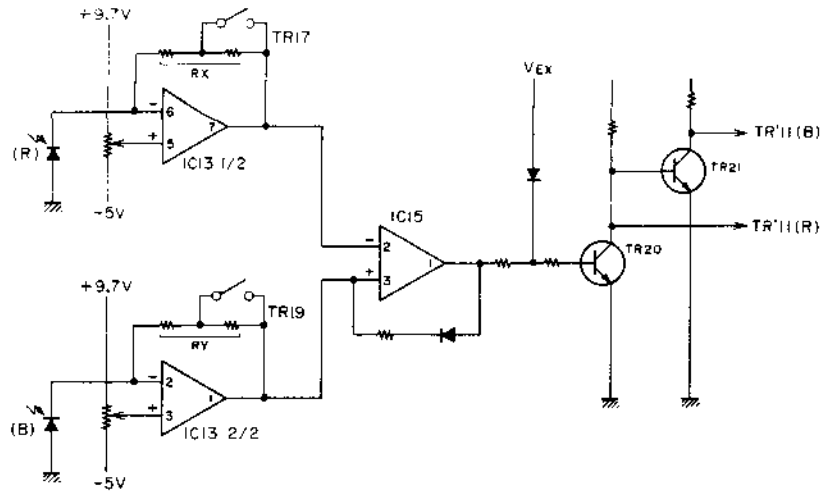

Fig. 23
The Circuit shown in Fig. 23 is used to switch between TR11 (R-channel) and TR11' (B-channel). The color temperature at the switching point between 3000°K and 5500°K is around 3700°K. With photo-diodes, forward current increases as the amount of incoming light increases. Therefore, with light of 3000°K coming in, a voltage drop by R_x exceeds that by R_y . This causes potential of IC13's ⑥ to drop, which in turn causes IC13's ⑦ to go to "H" level and IC13's ① to go to "L" level. Since IC15's ② is "H" and IC15's ③ is "L", its output (IC15 ④) is "L". This causes TR20 to be turned off and TR21 to be turned on, which in turn turns TR11 on. As a result, the gain of R-channel decreases and white balance is obtained. With IC14, as the amount of incoming light increases, voltage drop by R_x and R_y increases, which in turn causes IC14's ② and ① to decrease and TR17/TR19 to be turned on. As a result, the dynamic range is widened. In the similar manner, if a considerable amount of light is existing, IC14's ① decreases, TR18 is turned on, IC14's ⑥ goes to "L", and IC14's ⑦ goes to "H". This causes Vex to be applied from D1 to turn TR20 on, TR21 off and then TR11 on, thereby switching forcibly to 5500°K. (Note that this applies to AUTO mode only).